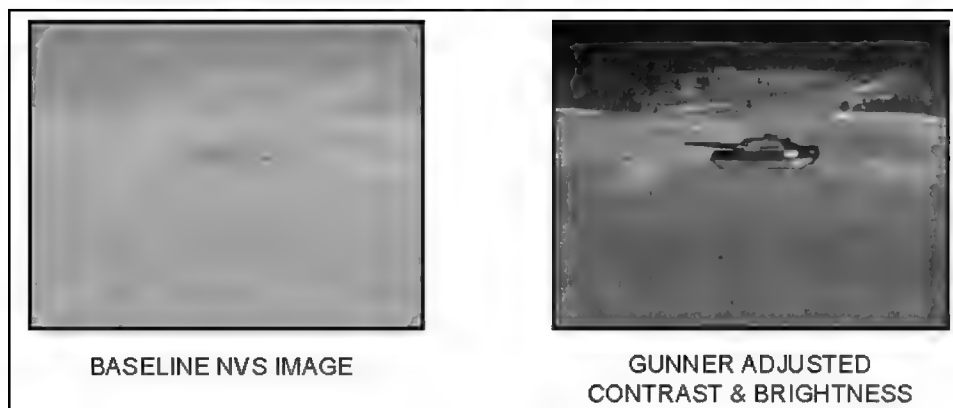

Figure E-18. NVS initial contrast and brightness baseline.
- When the power switch is turned to NIGHT and the NVS reaches cool down, the NVS automatically adjusts contrast and brightness for the IR in the target scene (Figure E-18). This gives the gunner a baseline image for making an initial focus adjustment only. He still needs to fine tune the contrast and brightness according to the task.